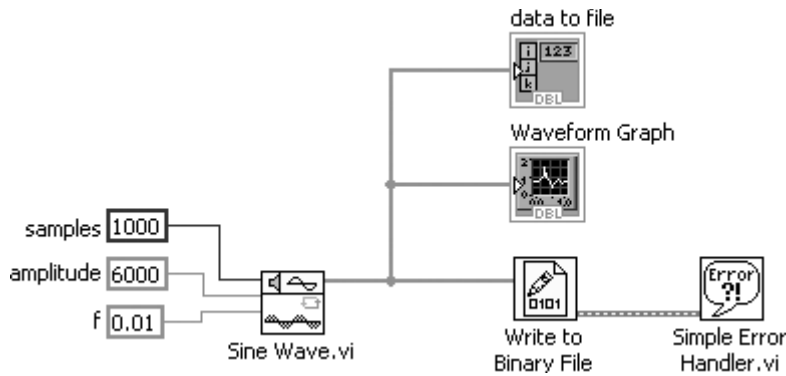

Figure 9.45
2. Build a block diagram like the one shown in Figure 9.45.
We'll make our binary data by generating an array of points that represents sinewave. To do this, we can use a function called **Sine Wave.vi**. You can find this function in the **Programming>>Signal Processing>>Signal Generation** palette, as shown in Figure 9.45.